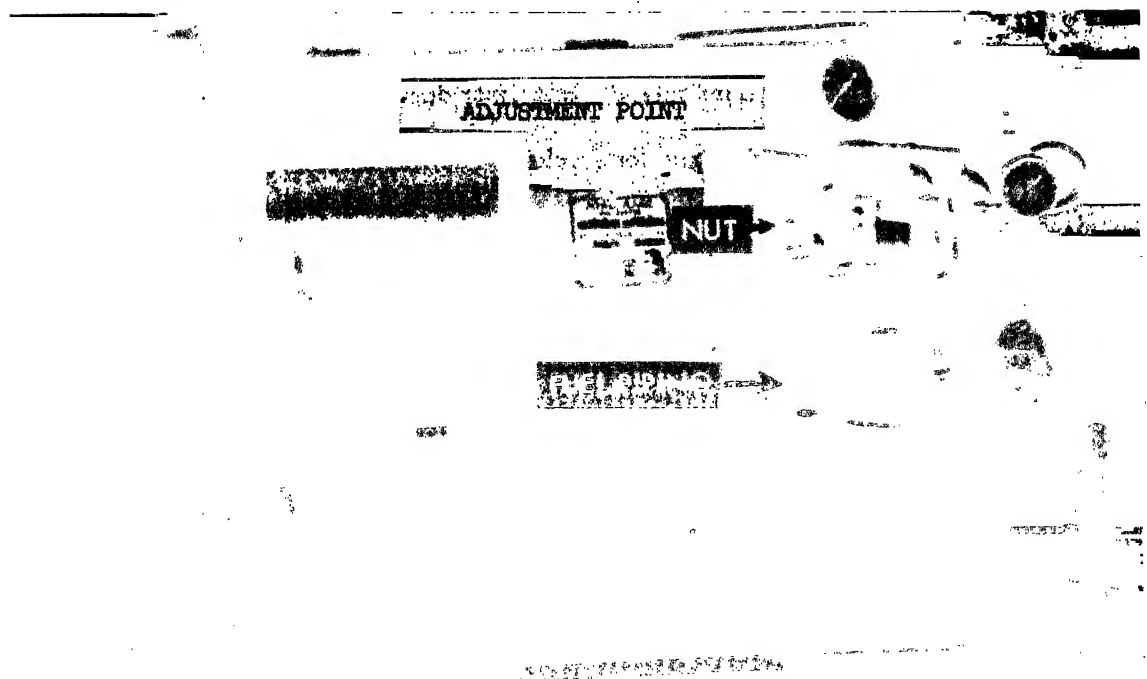

FIGURE 32. REMOVAL AND SERVICE DAMPER CYLINDER
- 2. Refer to Fig. 32 and remove the air damper cylinder and damper cylinder linkage.
- 1. Refer to Fig. 32 and install the air damper cylinder and the damper cylinder motor linkage.
- 1. Refer to Fig. 32 for the linkage adjustment points.